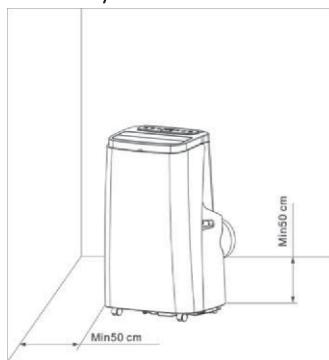

Figure4
1. Move the air conditioner with installed heat pipe and fittings before the window, and the distance between the body and walls or other objects shall be least 50 cm (as shown in Fig.4).